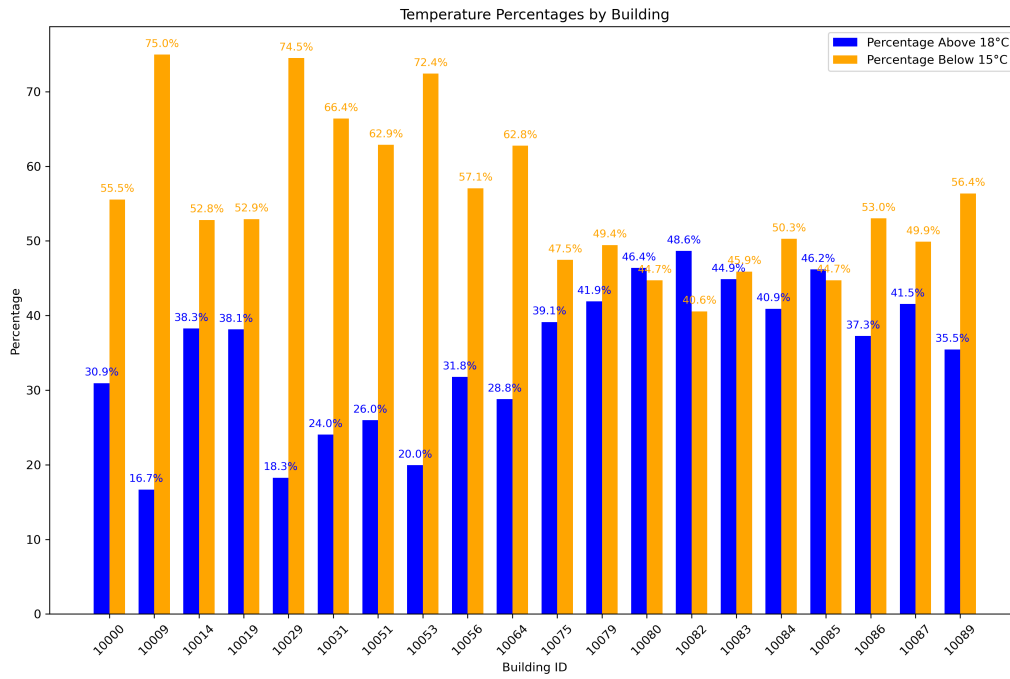

Figure 3: Percentage of areas with different temperatures across the 20 floor plans.
- Areas with temperatures below 15°C are deemed too cold for human comfort, as seen on Figure 3.